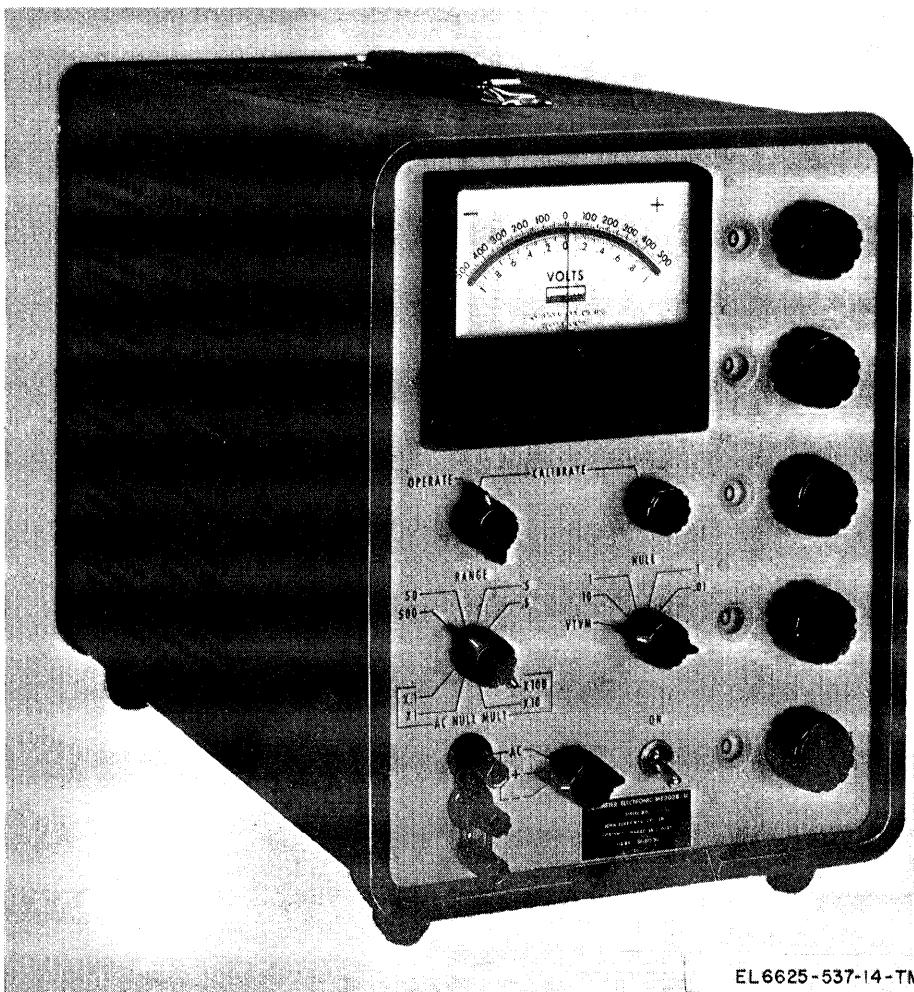

Figure 1-1. Electronic Voltmeter ME-202(*)/U.
a. This manual describes Electronic Voltmeters ME-202A/U and ME-202B/U, Electronic Voltmeter (*fig. 1-1*) and covers instructions for operation, installation, and operator's, organisational, and general support maintenance. No direct support maintenance is authorized.